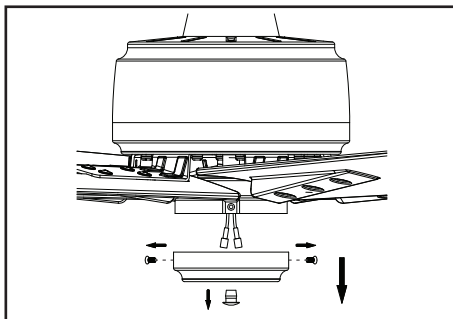

Figure 19
1. Remove and retain the three mounting screws from the switch box cover, then take off the switch box cover and remove the plastic nut from the switch box cover. (Figure 19)